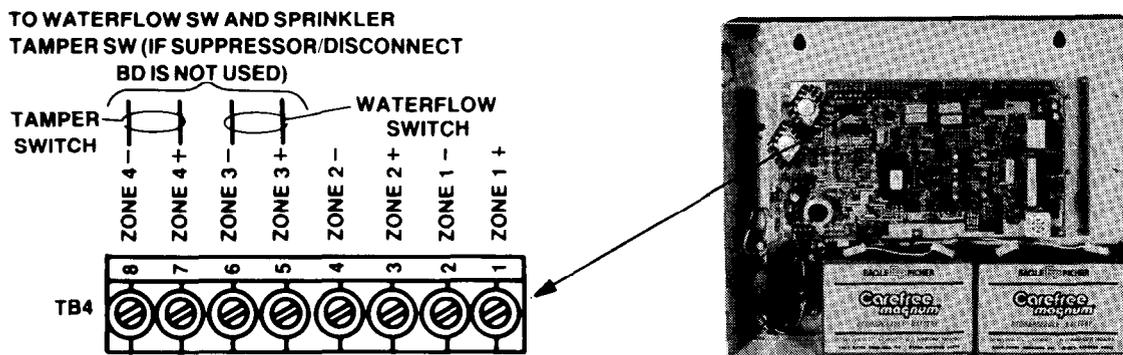

FIGURE 15
- A. Connect the waterflow switch (normally open) as shown in Figure 15. Make sure 3.3K resistor is connect to circuit as shown in wiring diagram 841-610.
- B. Connect the sprinkler tamper switch (normally closed) as shown in Figure 15. Make sure resistors (1K and 820 ohm, 1 watt) are connected to circuit as shown in wiring diagram 841-610.